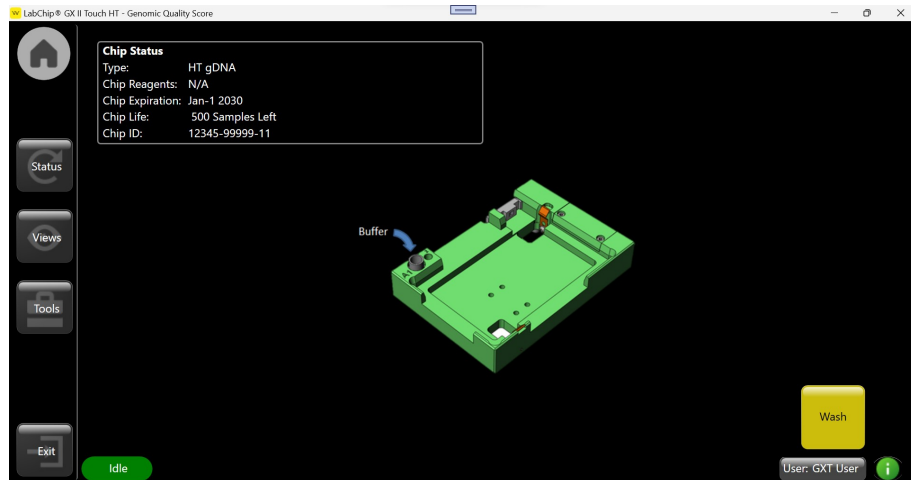

Figure 13. *Wash* screen.
- 6 Touch the *Wash* button in the upper right corner in the *Home* Screen. The *Wash* screen opens (Figure 13).